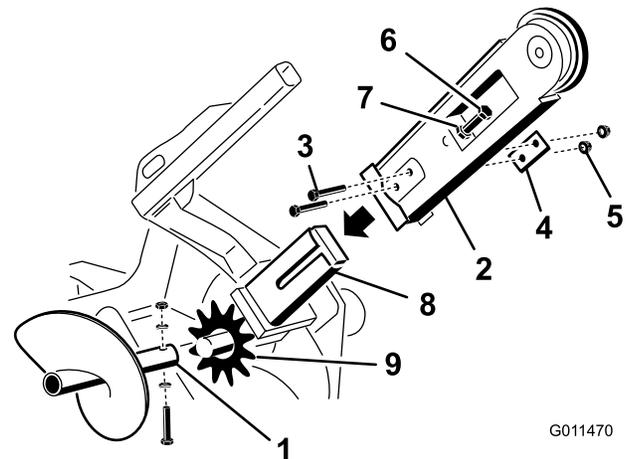

Figure 4
2. Remove the bolt, 2 saddle washers, and nut securing the spoils auger and remove the auger (Figure 4).
3. Remove the 2 bolts, nuts, and double washers from the sides of the boom (Figure 4).
4. Loosen the adjusting bolt and jam nut (Figure 4).